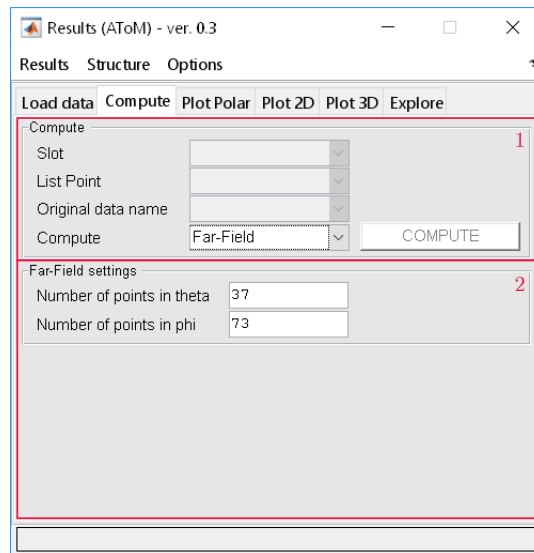

Figure 7.3: Results GUI - Compute tab
This second tab (see Fig. 7.3) is intended for pre-calculation of results but for next visualisation is not necessary to use it. However, there are at least three cases in which is this tab important:
- User wants to change some of the parameters which affects the calculation (see. Fig. 7.3 Box 2).
Compute tab consists of two main parts, first part (see Fig. 7.3 Box 1) is used to select the data for which should be new quantity computed. Second part of the window (see Box 2) contains special panel which is based on requested quantity. Computational parameters can be changed using this panel.